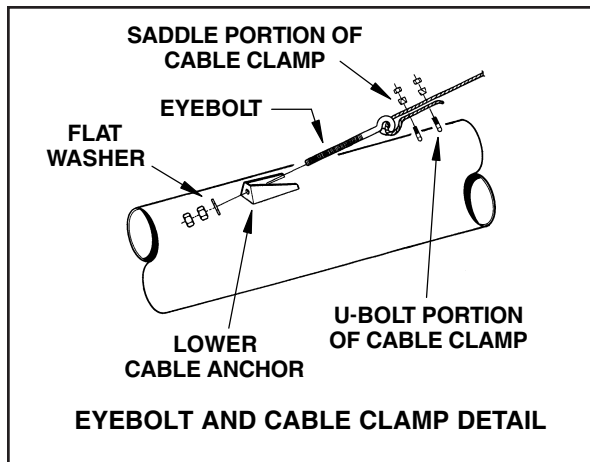

FIG. 27
Step 6. Install eyebolts through anchors at intake end, using flat washer and two nuts per eyebolt. See Fig. 27.
Step 7. Attach cables to eyebolts using two cable clamps per each cable. NOTE: Secure the clamp u-bolt against the loose end of the cable. See Fig. 27.